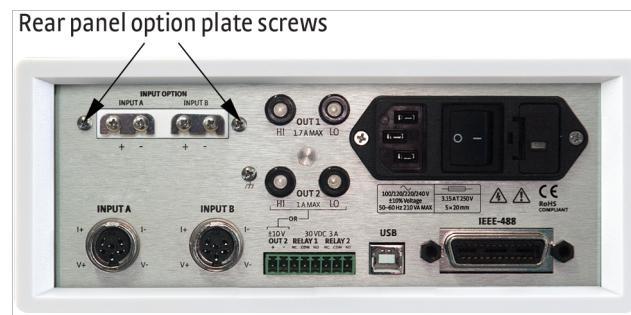

FIGURE 8-10 Align the 3060 card with input A and B
8. Locate the screws included in the 3060 option kit. Attach the card by starting both of these screws in a few threads before tightening either(FIGURE 8-10).